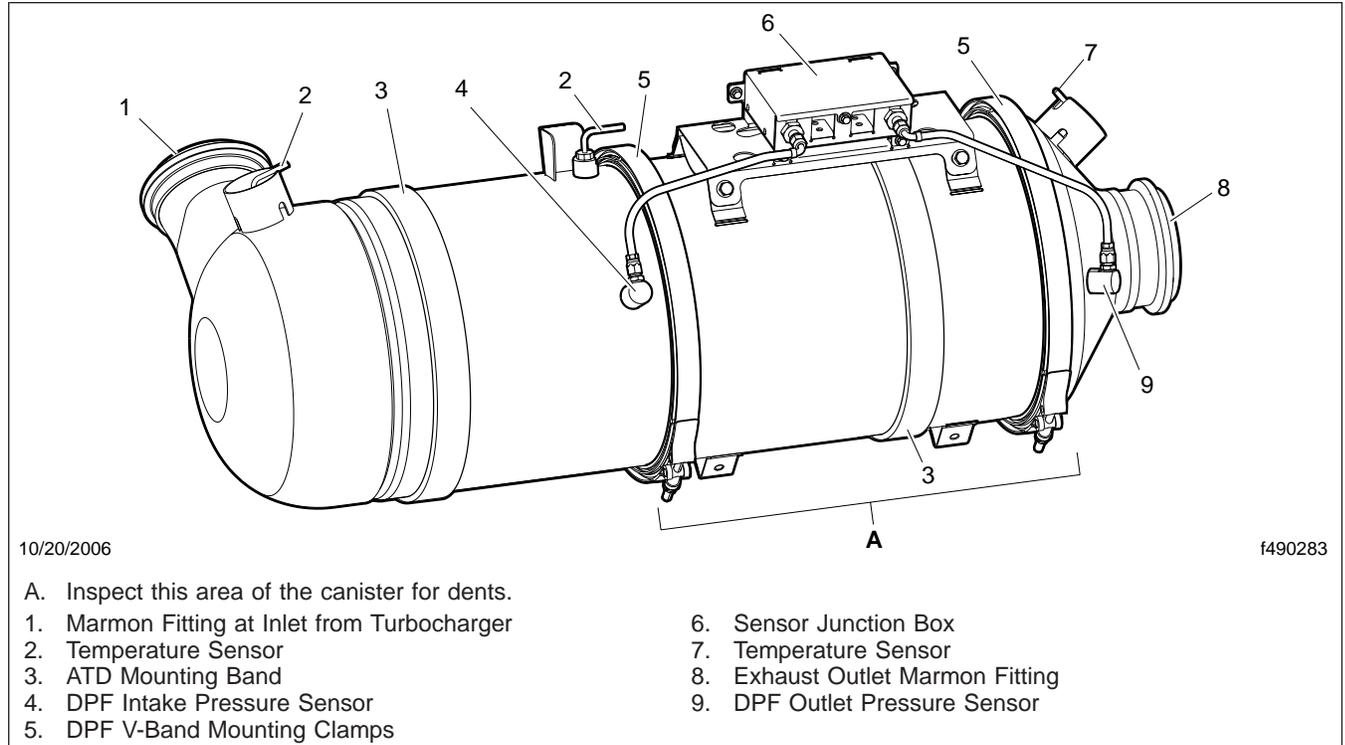

Fig. 1, Typical After-Treatment Device
IMPORTANT: The Environmental Protection Agency's 2007 regulations require lower exhaust emissions, thus requiring new exhaust system components. See **Fig. 1**. In particular the after-treatment device (ATD), which is part of the after-treatment system (ATS), requires special attention during regularly scheduled maintenance inspections. If any discrepancies
7. Check the DPF exterior surface for dents or other damage. See Fig. 1, item A. A dent over 3 inches (76 mm) in diameter and 1/4-inch (6mm) deep could cause internal damage to the DPF, causing it to malfunction.